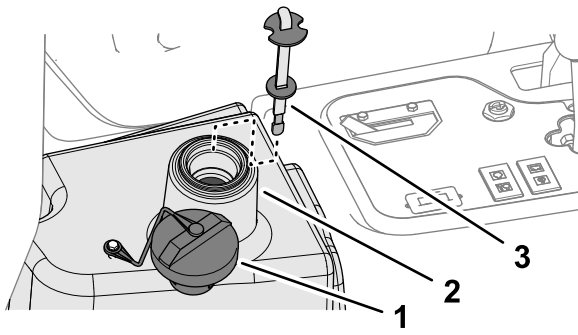

Figure 87
4. Fill the reservoir (Figure 87) with approximately 22.7 L (6 US gallons) of hydraulic fluid; refer to Hydraulic Fluid Specifications (page 59).